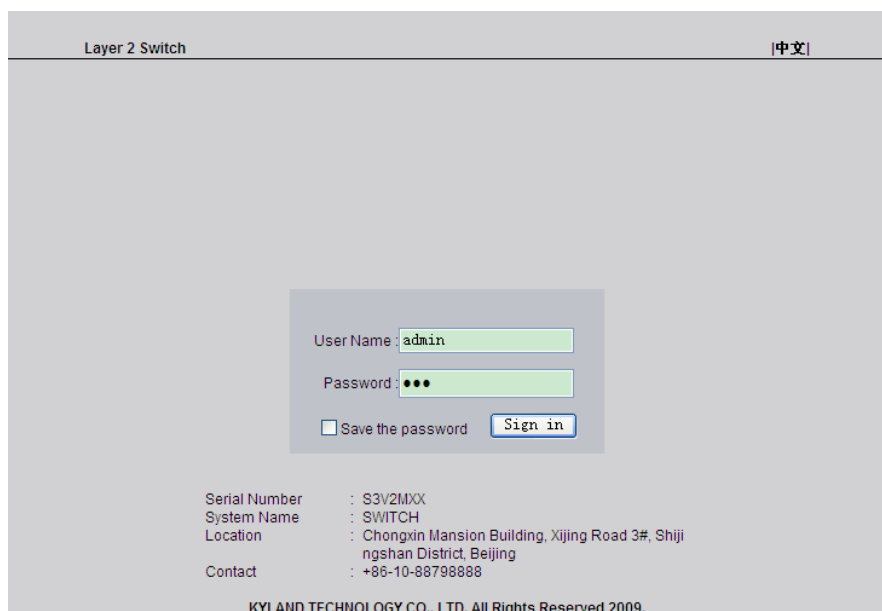

Figure 33 Web Interface Access Screen
**192.168.0.2**. The Web interface access screen will appear as shown below in Figure 33, login with default user name “**admin**” and password “**123**”.